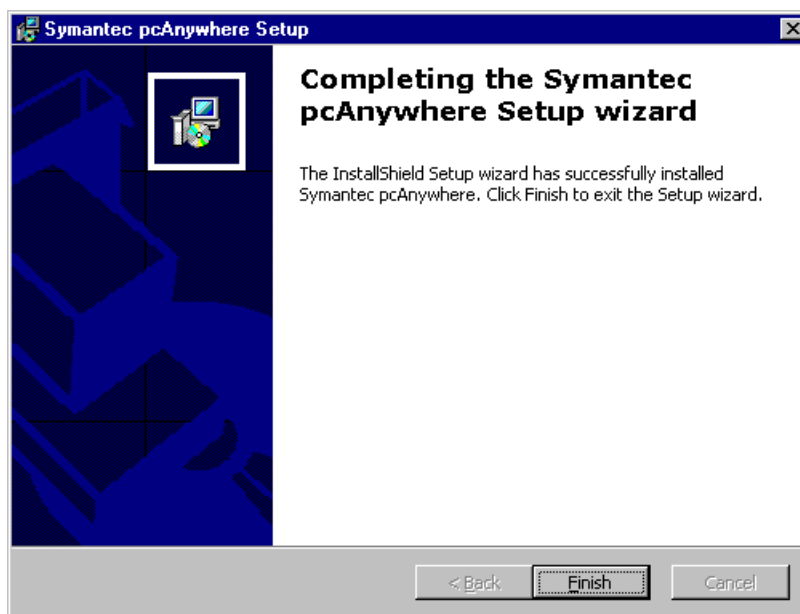

Fig. 23
- Window "Completing the Symantec pcAnywhere setup wizard" (Fig. 23) is displayed.